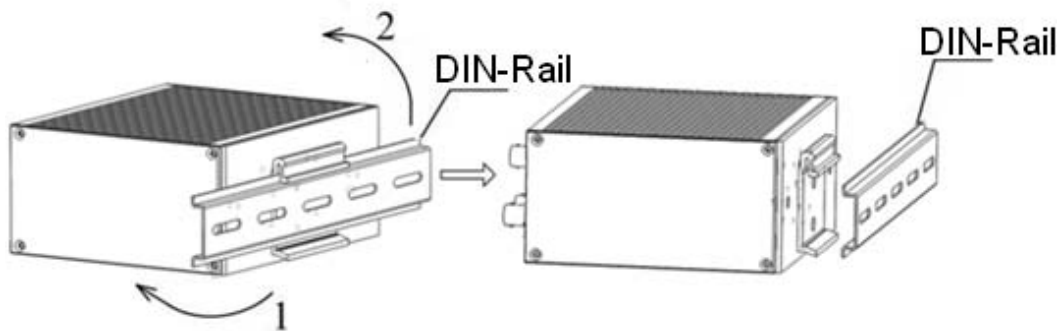

Figure 11 Dismounting
Step 1: Move the device in the direction of arrow 1 as shown in Figure 11.